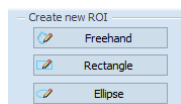

Figure 391 – Quantitative analysis drawing tools in tool tab
- Select an appropriate tool for the ROI definition in the **Create new ROI** section of the tool (see Figure 391).